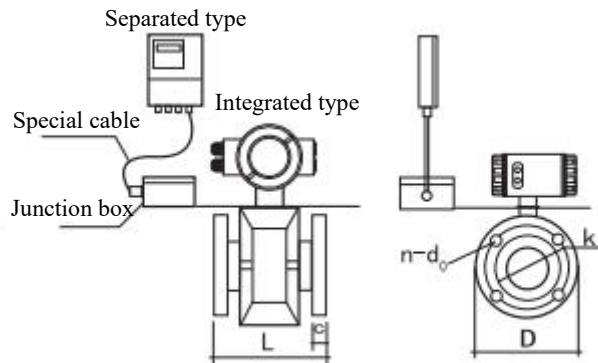

Figure 4
4.2 Appearance and installation size of the sensor, see Figure 4